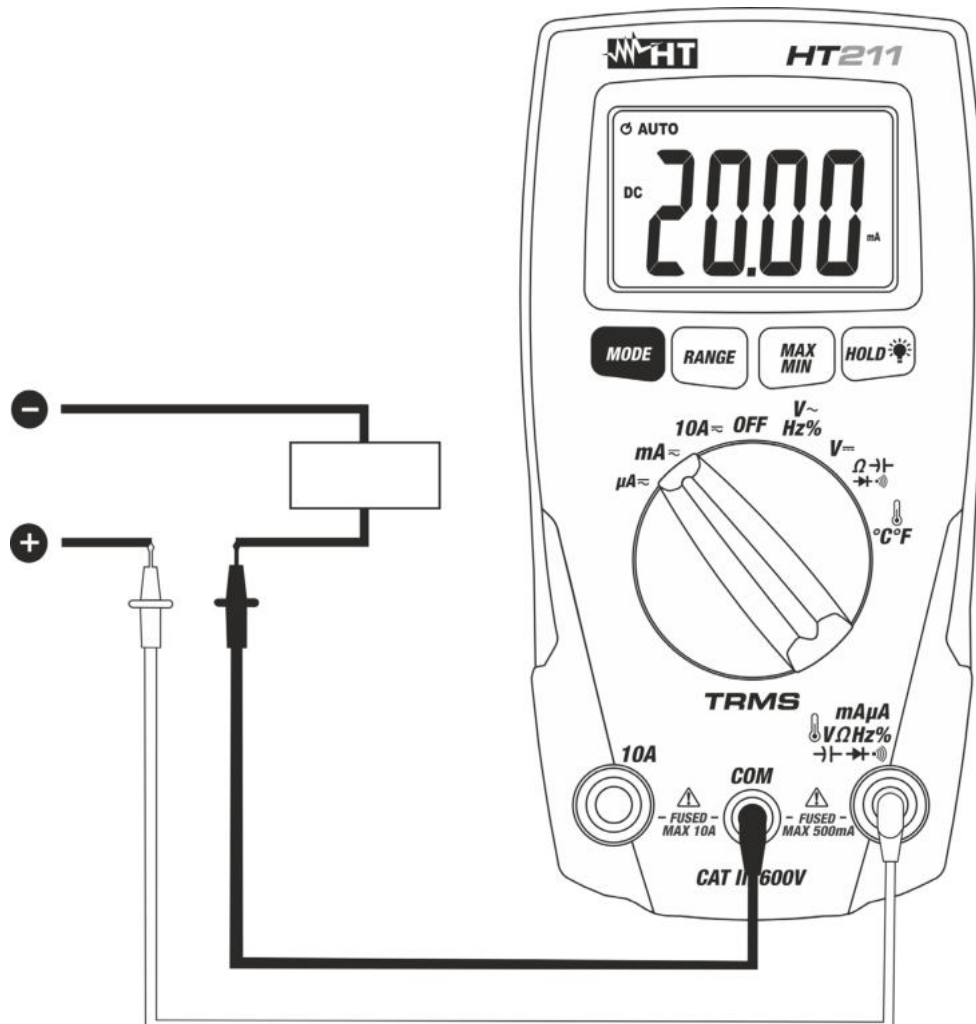

Fig. 9: Using the instrument for DC Current measurement
5. Connect the red and the black plugs in series with the circuit whose current is to be measured respecting the polarities (see Fig. 9)